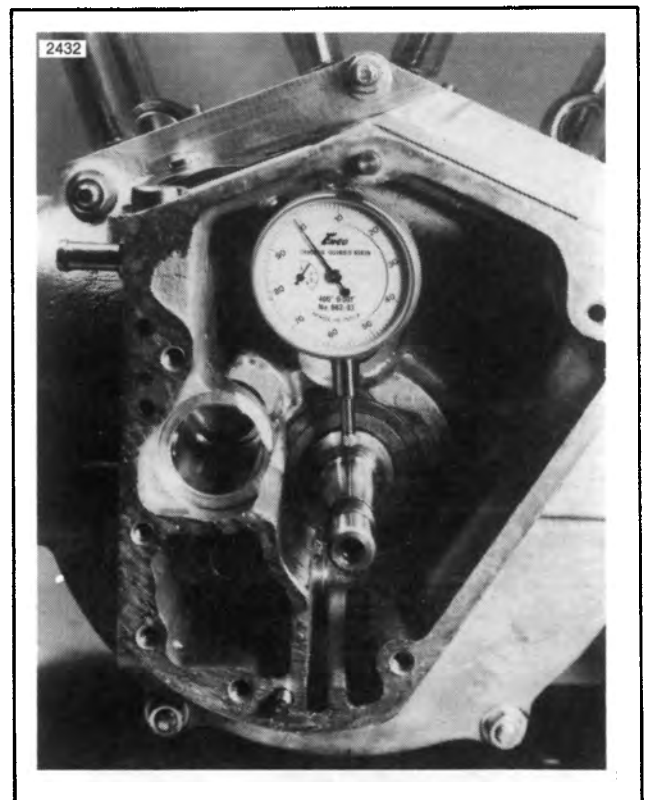

Figure 3-33. Checking Pinion Shaft Bearing
- See Figure 3-33. Clean the pinion shaft bearing with contact cleaner and check the bearing clearance with a dial indicator. Mount the indicator with the probe perpendicular to the shaft and as close to the bearing as possible. If the clearance exceeds 0.002 in., the bearing must be refitted. See Truing and Sizing, Pinion Shaft Bearing in the CRANKCASE subject.